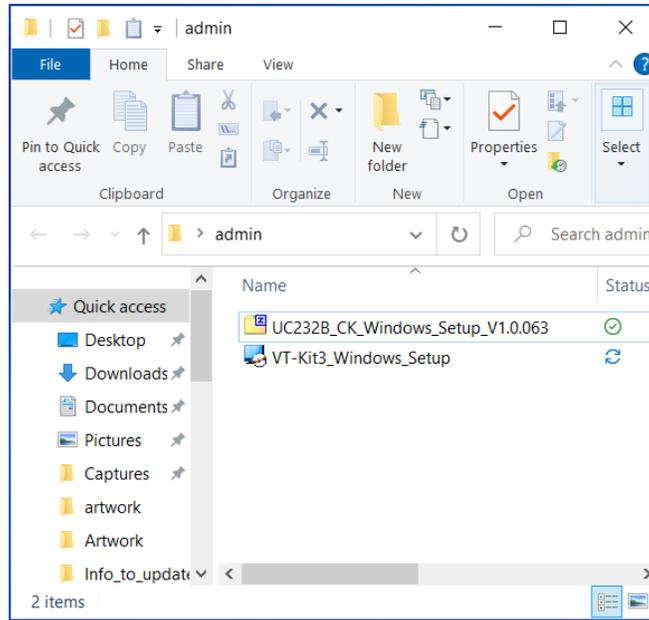

Figure 7. VT-Kit3 Executable Icon
5. Extract a file in the zip file and find the driver software executable file. See Figure 7 on page 21.